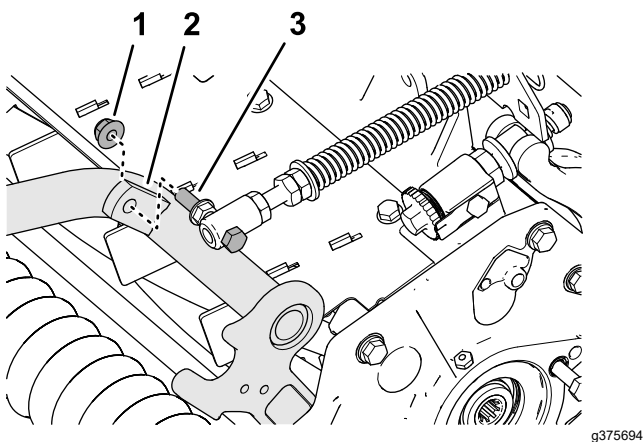

Figure 19
4. Assemble the capscrew of the turf compensation spring to the right tab of the carrier frame (Figure 19) with the flange locknut (3/8 inch).